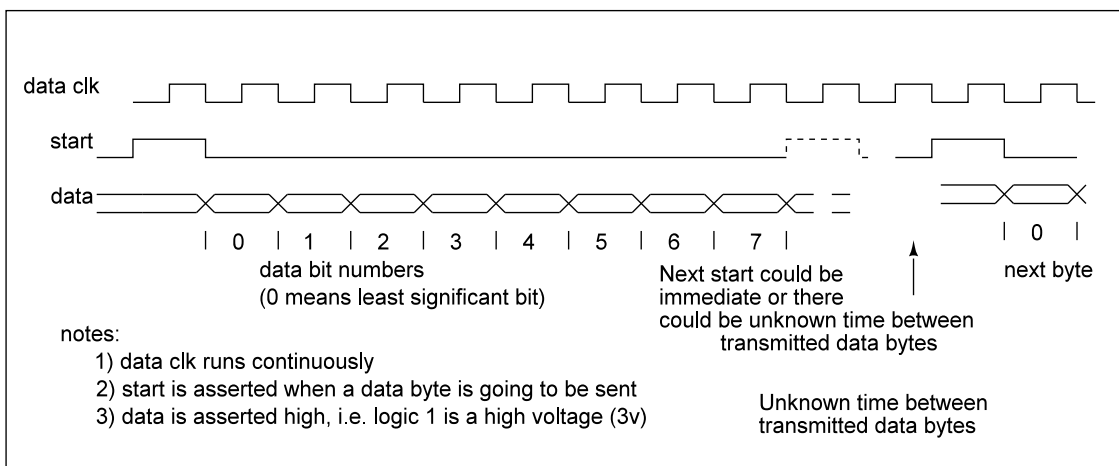

Figure 1 - Transmission timing
- 1) Design an 8-bit serial data transmitter and implement on a WWU FPGA3 board. Assume a three signal interface will be used to transfer data to a receiving circuit: a data line, data clock, and data start signal (see figure 1). The transmitter will have an 8-bit data input (sw7 to sw0), a Go signal (sw11), and system clock. When the Go signal is asserted, a byte will be read from sw7-0 and placed into transmit memory, and then transmission will begin. Bit 0 will be transmitted first, Bit 1 next, etc. Transmitter outputs will be as follows: